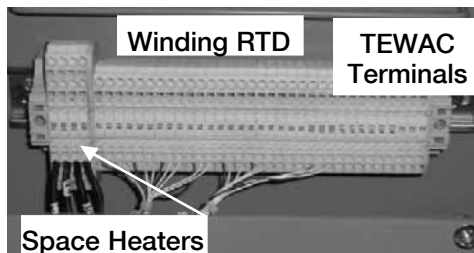

Figure 6-89
9. Connect Air Flow RTD wires to terminals AF1 and AF2 and Leak Detector Form-C contact wires to terminals LD. (Figure 6-89)